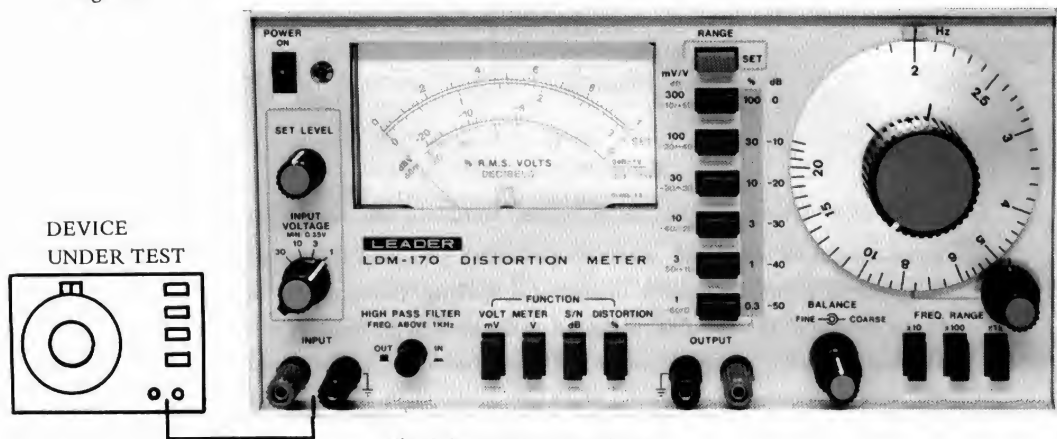

Fig. 2-2 Input connections.
3. Connect the input cord from the INPUT terminals to the test circuit output. An example is shown in Fig. 2-2.